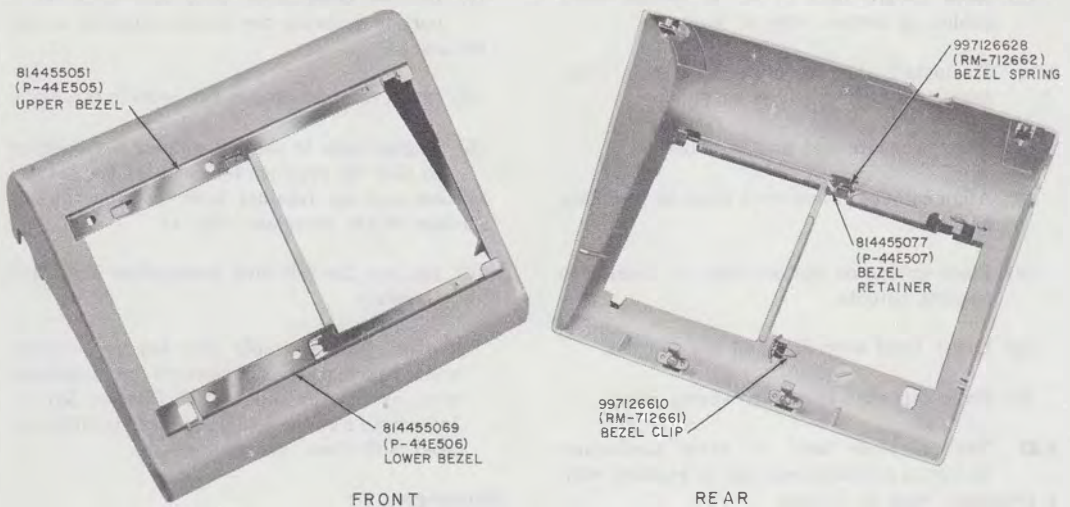

Fig. 3—Housing With Two-Piece Bezel Assembly Installed
- (1) Remove faceplate, mat, and bezel assembly (2.05).
- (2) Remove housing (2.09).
- (3) Install lower bezel 814455069 (P-44E506).
- (4) Secure with 997126610 (RM-712661) bezel clip (Fig. 3).
- (5) Place upper bezel 814455051 (P-44E505) on housing.
- (6) Turn housing over and place 814455077 (P-44E507) retainer on tab of bezel (Fig. 3).
- (7) Place 997126628 (RM-712662) bezel spring over retainer (Fig. 3).